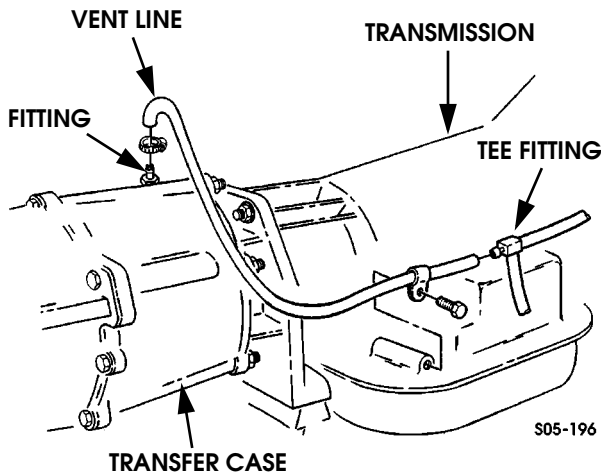

Figure 5-77: Transfer Case Vent Line Routing
1. Loosen clamp and remove vent line from fitting on rear of transfer case (Figure 5-77).
5. Disconnect vent line from transfer case (Figure 5-77).